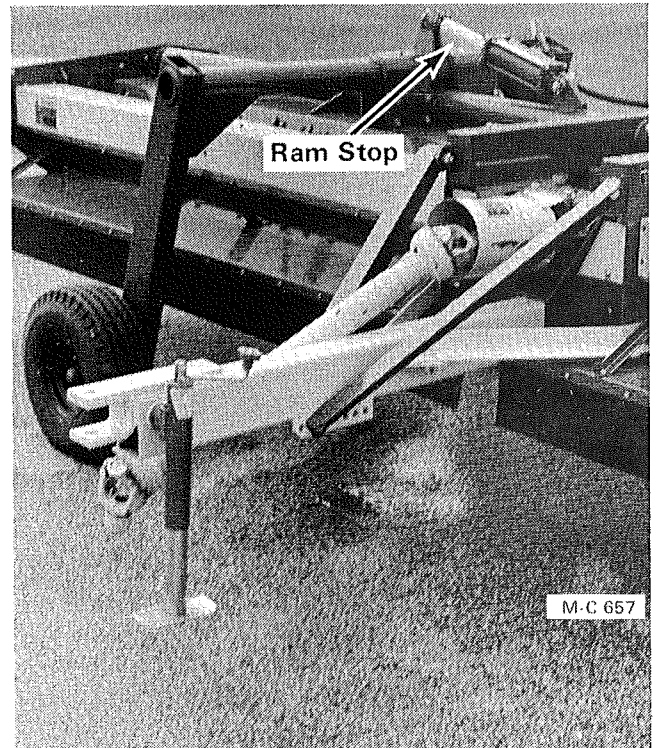

Figure 15J
9. Raise the Shredder to the transport position, see Figure 15J. Put the ram stop on the transport ram.